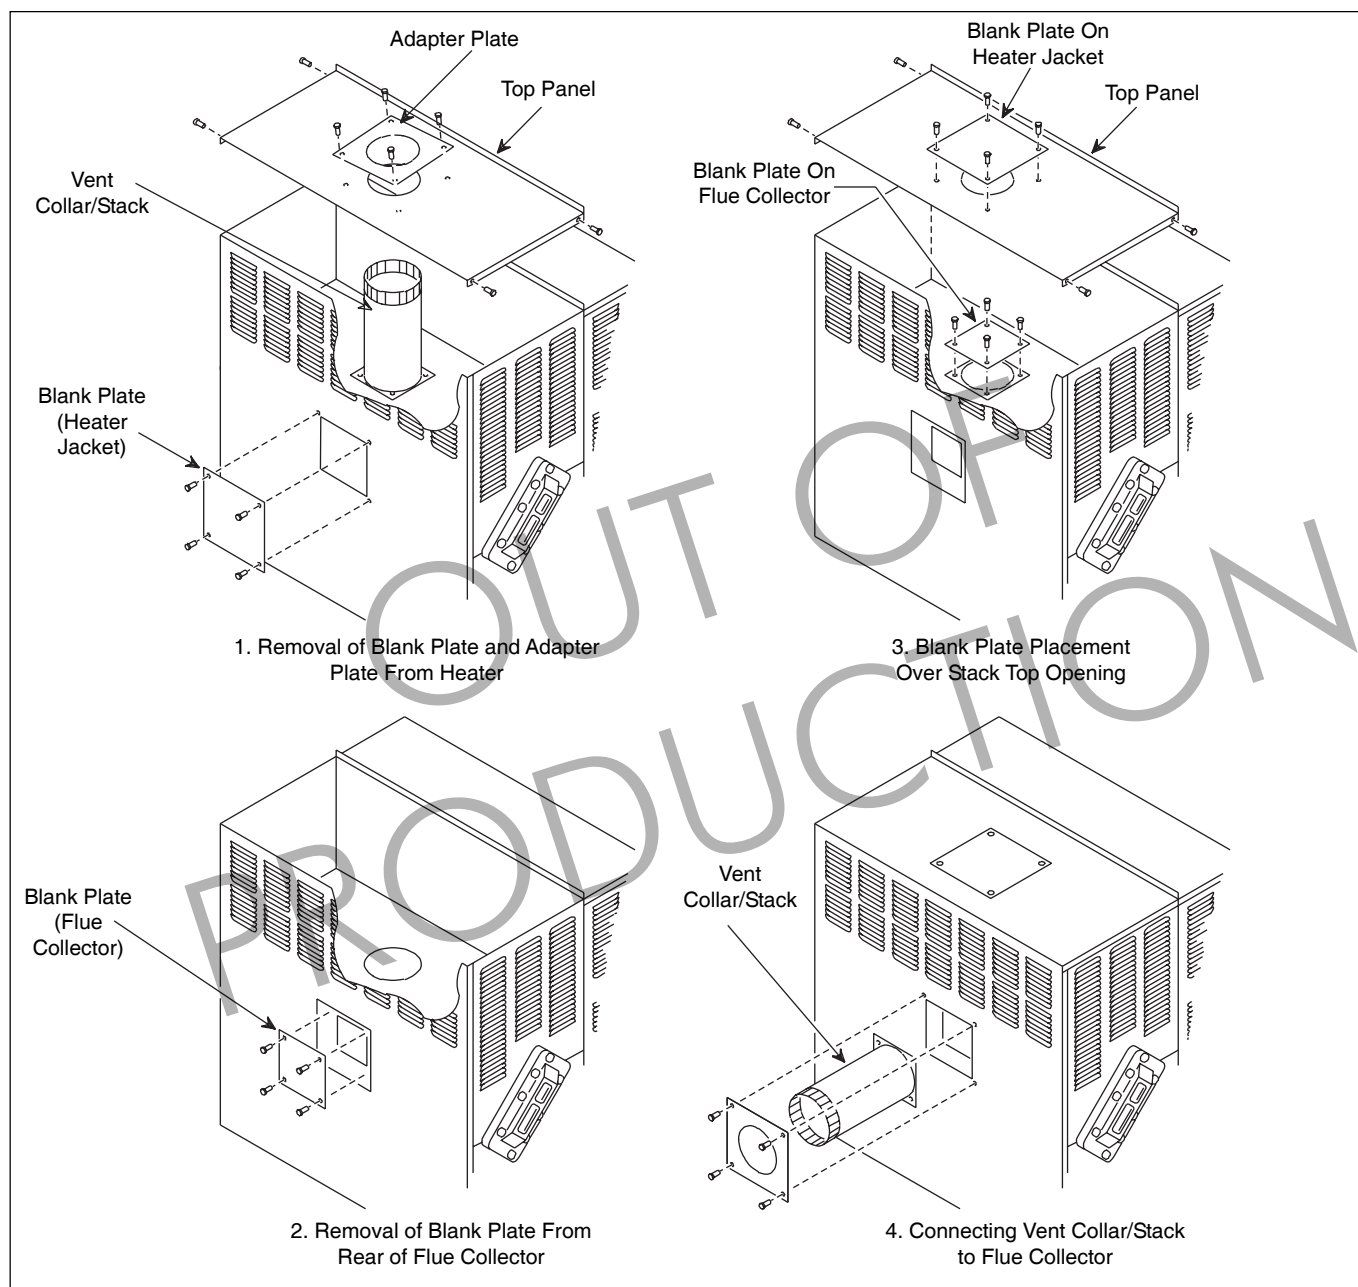

Figure 8. Top-To-Rear Vent Collar.
The Mighty Max VW heater is shipped with the vent collar on top of the heater. Follow this procedure to convert it for rear connection (see Figure 8).
9. Slip the adapter plate over the vent collar/stack and install it onto the rear heater jacket (see Figure 8).